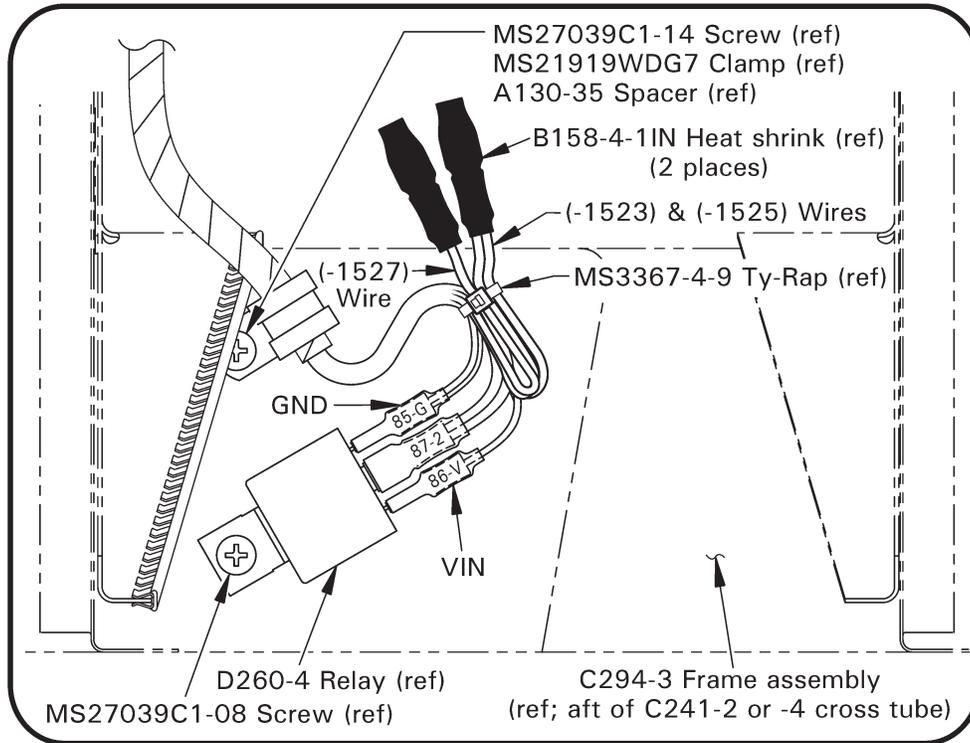

Figure 1 D260-4 Relay installation location
2. **R44 II only:** Refer to Figures 1 & 2A, and R44 Illustrated Parts Catalog (IPC) Figure 96-63B. Remove aft belly panel. Remove MS21919WDG7 clamp and associated hardware securing airframe harness. Remove D260-4 relay from C294-3 frame assembly (located on C296 bulkhead). Slide one B158-4-1IN heat shrink over receptacle on wire (-3126). Apply heat using heat gun. While heat shrink is hot, pinch and close the open end using smooth jaw pliers. Verify receptacle is insulated and heat shrink is secure.
5. Refer to KI-255-2 R44-series Engine Air-Oil Separator Installation Kit instructions, Figures 1 and 2. Disconnect A729-77 rubber [drain] tube from C728-2 separator assembly and temporarily cap tube. Disconnect A785-43 hose from separator assembly, and remove screws securing separator assembly at MS21919 clamp & bottom tab. Remove separator assembly and temporarily cap hose.